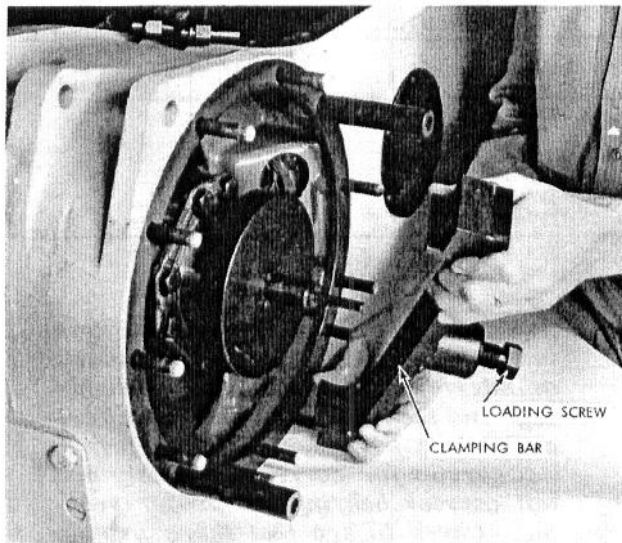

Fig. 81 - Installing Clamping Bar
6. Install the clamping bar over the centering hub and the two center housing studs as shown in Fig. 81.